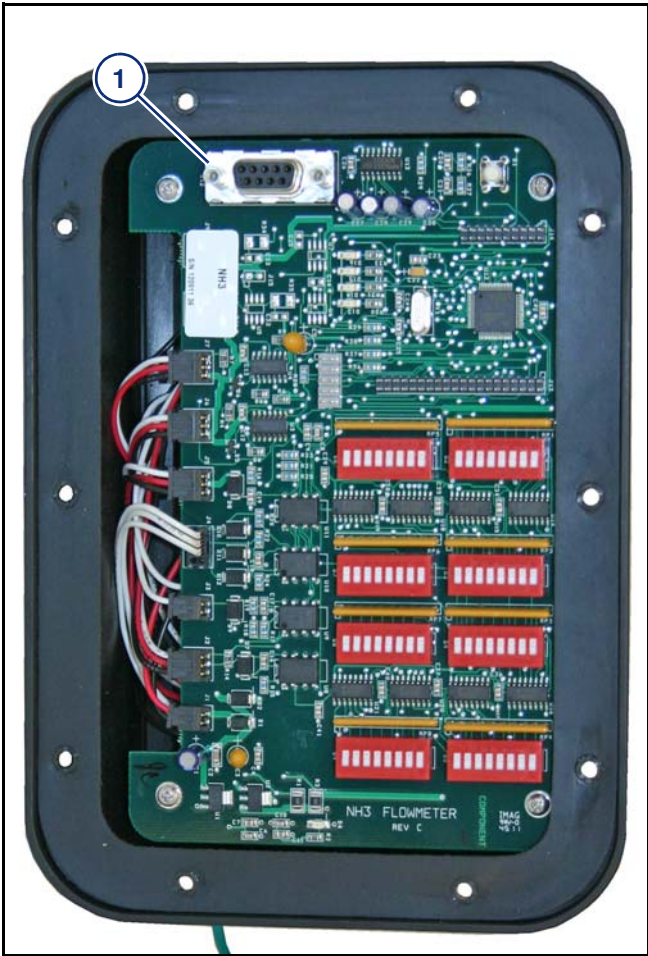

Figure 31
**[Figure 31]** - Connect the computer to the flow meter module serial port (1) using a male to female DB9 cable.